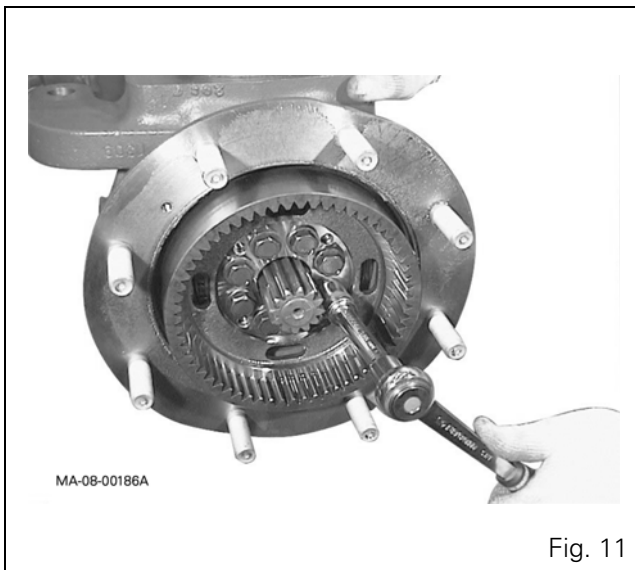

Fig. 11
11. Loosen and remove the attachment screws of the ring gear carrier assembly (Fig. 11)